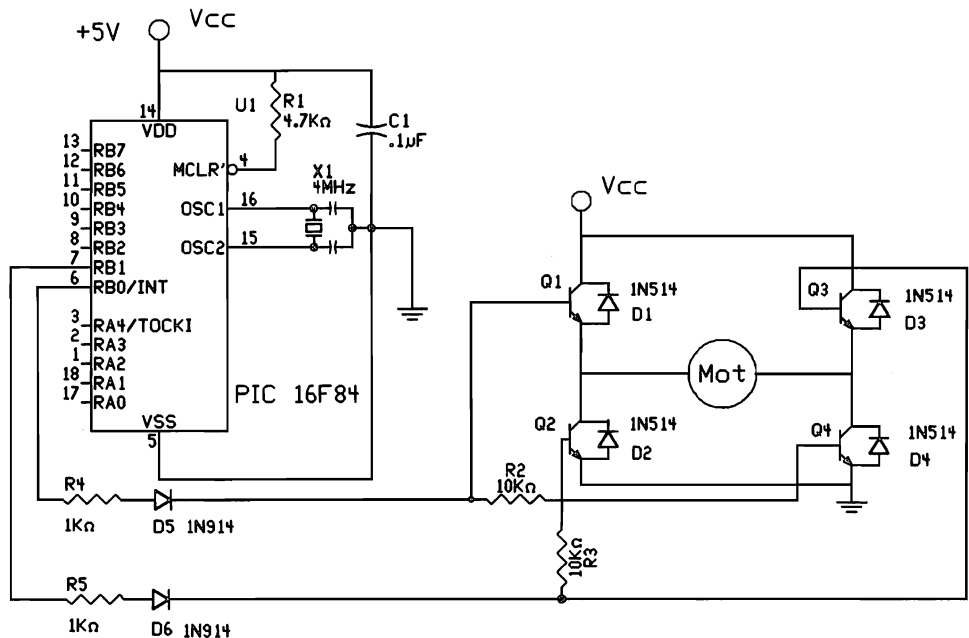

Figure 11.4 PIC schematic using H-bridge to control dc motor.
The PIC microcontroller controls an H-bridge made of four TIP120 Darlington NPN transistors, four 1N514 diodes, and two 10-k Ω $\frac{1}{4}$ -W resistors (see Fig. 11.4). The TIP120 Darlington transistors are drawn in the schematic as standard NPN transistors. Pin 0 is connected to transistors Q1 and Q4. Pin 1 is connected to transistors Q3 and Q4. Using either pin 0 or pin 1, the proper transistors are turned on and off to achieve clockwise (CW) or counterclockwise (CCW) rotation. If, by accident or programming error, pins 0 and 1 are brought high simultaneously, this will create a short circuit.